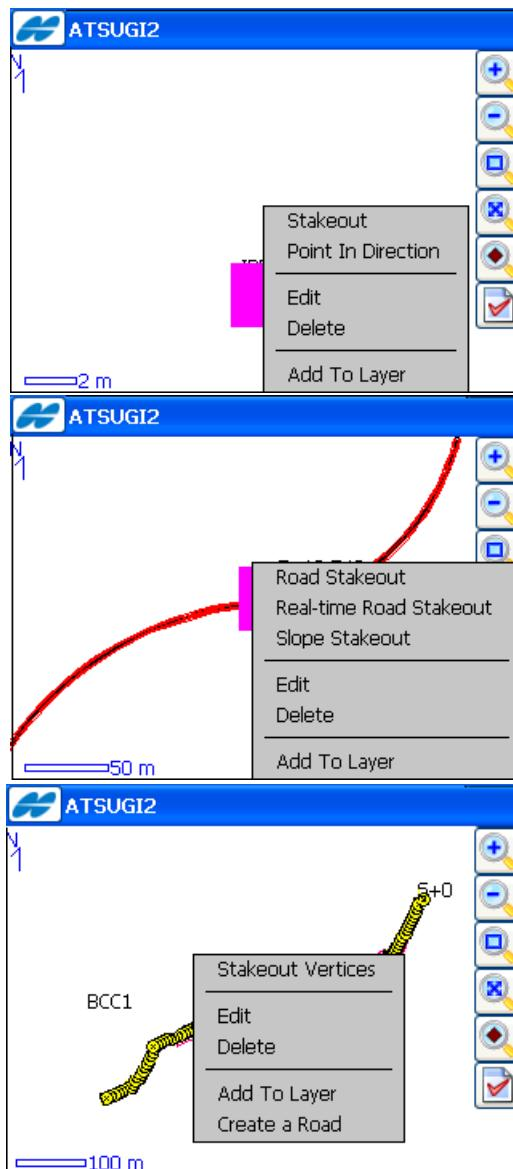

Figure 12-5. Map Options
- Press and hold the stylus on the selected object to display map options. A pop-up menu displays the options available for the selected object (Figure 12-5 on page 12-5):